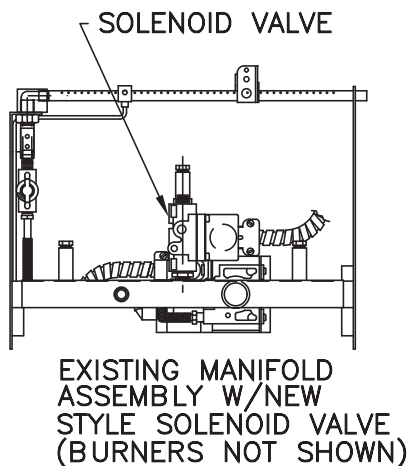

FIG. 2
13. Install the solenoid valve onto the manifold frame in the same location that the original was removed. The valve orientation is parallel to the frame. (See Fig. 2)